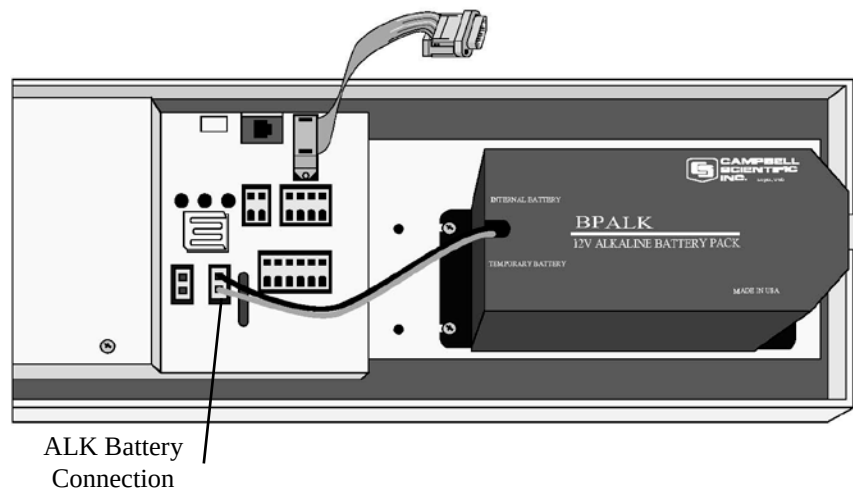

FIGURE 3-2. Alkaline Power Mounting and Connections
- a) Alkaline Option: The BPALK houses 8 "D" cell batteries. Install it as shown in FIGURE 3-2. Remove the external circuit board with wire and connector by loosening the 2 Phillips head screws. Discard the external circuit board. Mount the BPALK into the enclosure. To install the battery pack, loosen the thumbscrew and remove the cover. Insert the battery pack and plug the battery lead into the connector labeled "ALK".